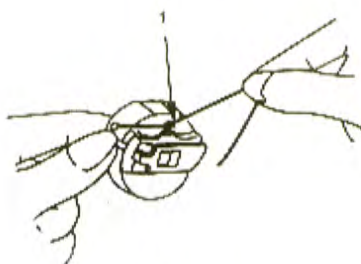
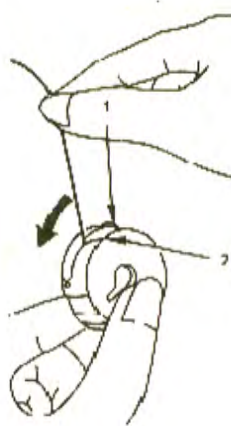

Figure 14
Figure 15
Draw thread out from slot '2' on end of spring '1', (Figure 14) and pass it through bobbin case thread guide '1', Figure 15.
- When straight stitching, a better result can be obtained if bobbin thread is not threaded through bobbin case thread guide '1' of Figure 15.